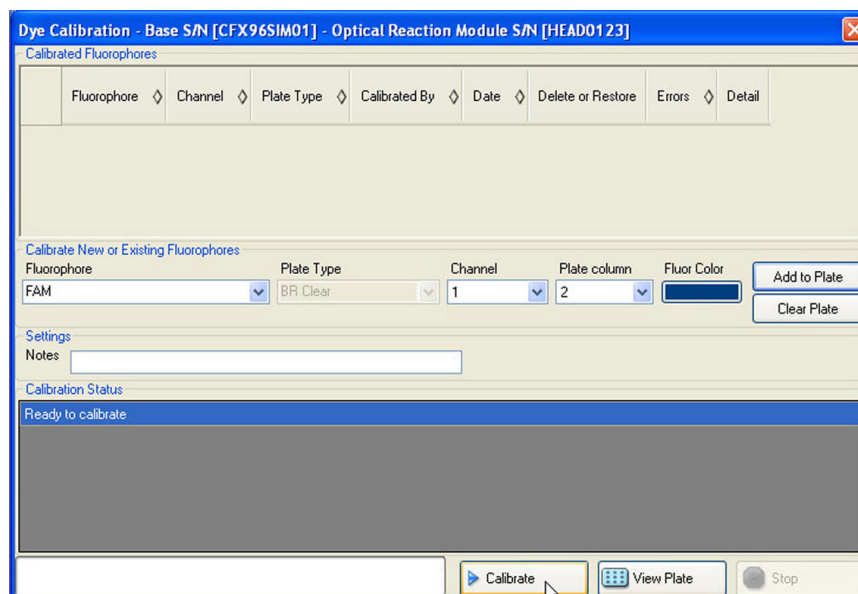

Figure 103. Dye Calibration window.
2. Select **Tool > Calibration Wizard** to open the window and calibrate new dye and plate combinations (Figure 103).
Figure 103 shows an example of the Dye Calibration window.